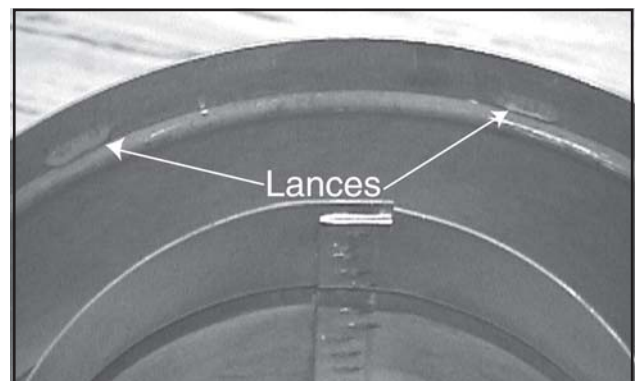

FIGURE 1.17
- Slide the male end of the inner flue of the pipe section over the inner collar on the heater. At the same time, slide the outer flue over the outer collar on the heater. Push the flue section into the appliance collar until all the lances (see Figure 1.17) have snapped in place. Tug slightly on the flue to confirm that it has completely locked into place.